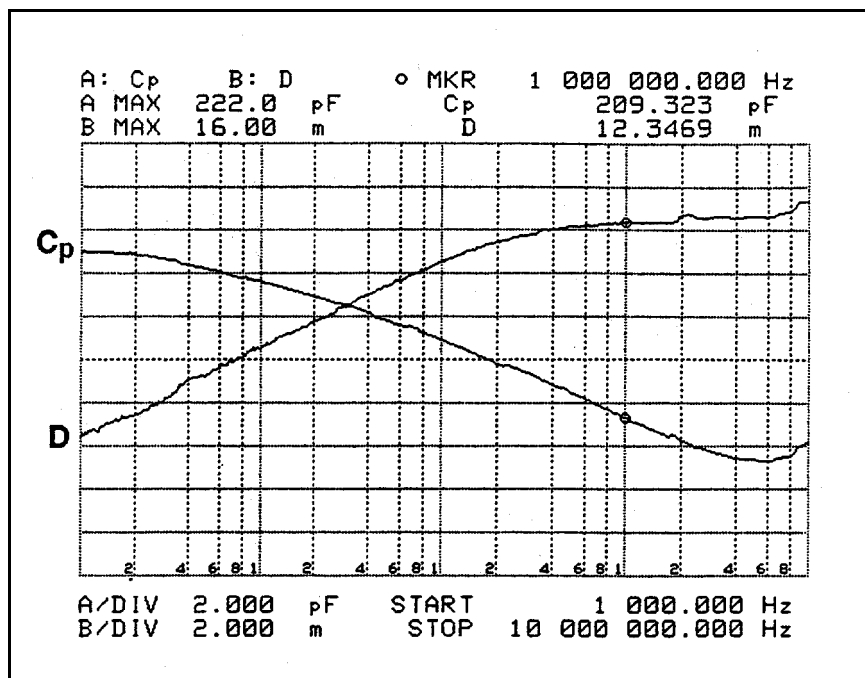

Figure 3-33.
18. After the sweep is completed, press **(DISPLAY)**, **more**, **AUTO SCALE A**, **more**, **AUTO SCALE B** then the screen will be displayed as in Figure 3-33.